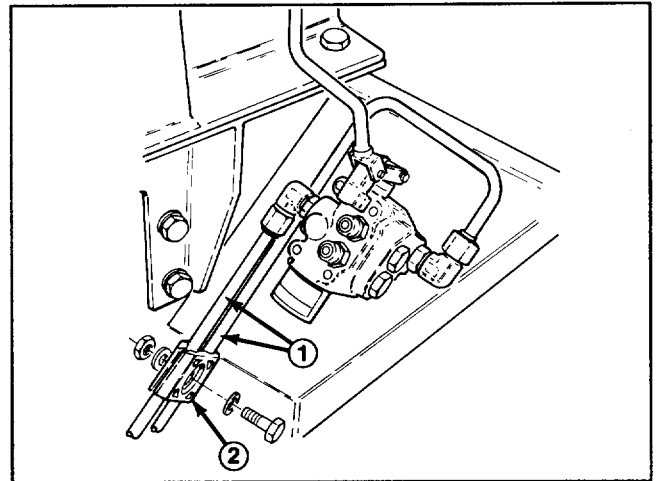

Figure 3
10. Secure tube assemblies together with clamp, 1/4 - 20 x 1-1/4" lg. capscrew, (2) 1/4 flat washers and 1/4 - 20 locknut. Position clamp near edge of fender (Fig. 3).